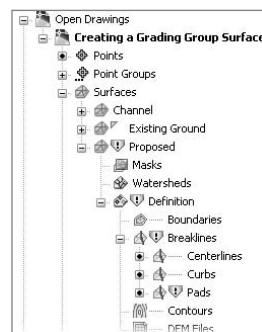

Figure 12.28
7. Select the pads on lots 21 and 22, and repeat the Raise/Lower process to set the pad at **830.8**. Notice that Prospector has also added chevron icons to your Proposed surface, indicating that the data it is based on has changed. (See Figure 12.28.)